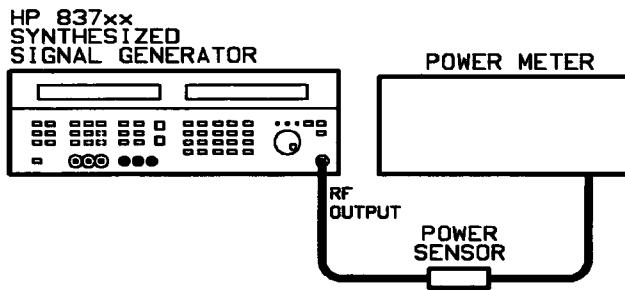

Figure 3-4. Maximum Power Test Setup
2. Set up the equipment as shown in Figure 3-4.